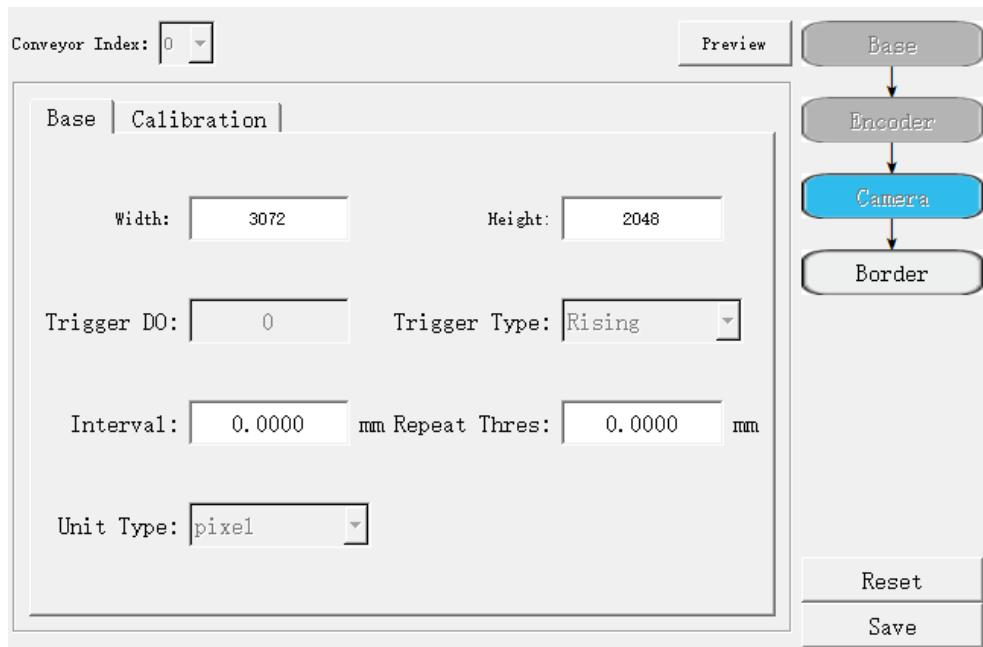

Figure 5.15 Vision system calibration page
**Step 5** (Optional) Click **Camera** to calibrate the vision system, as shown in Figure 5.15.